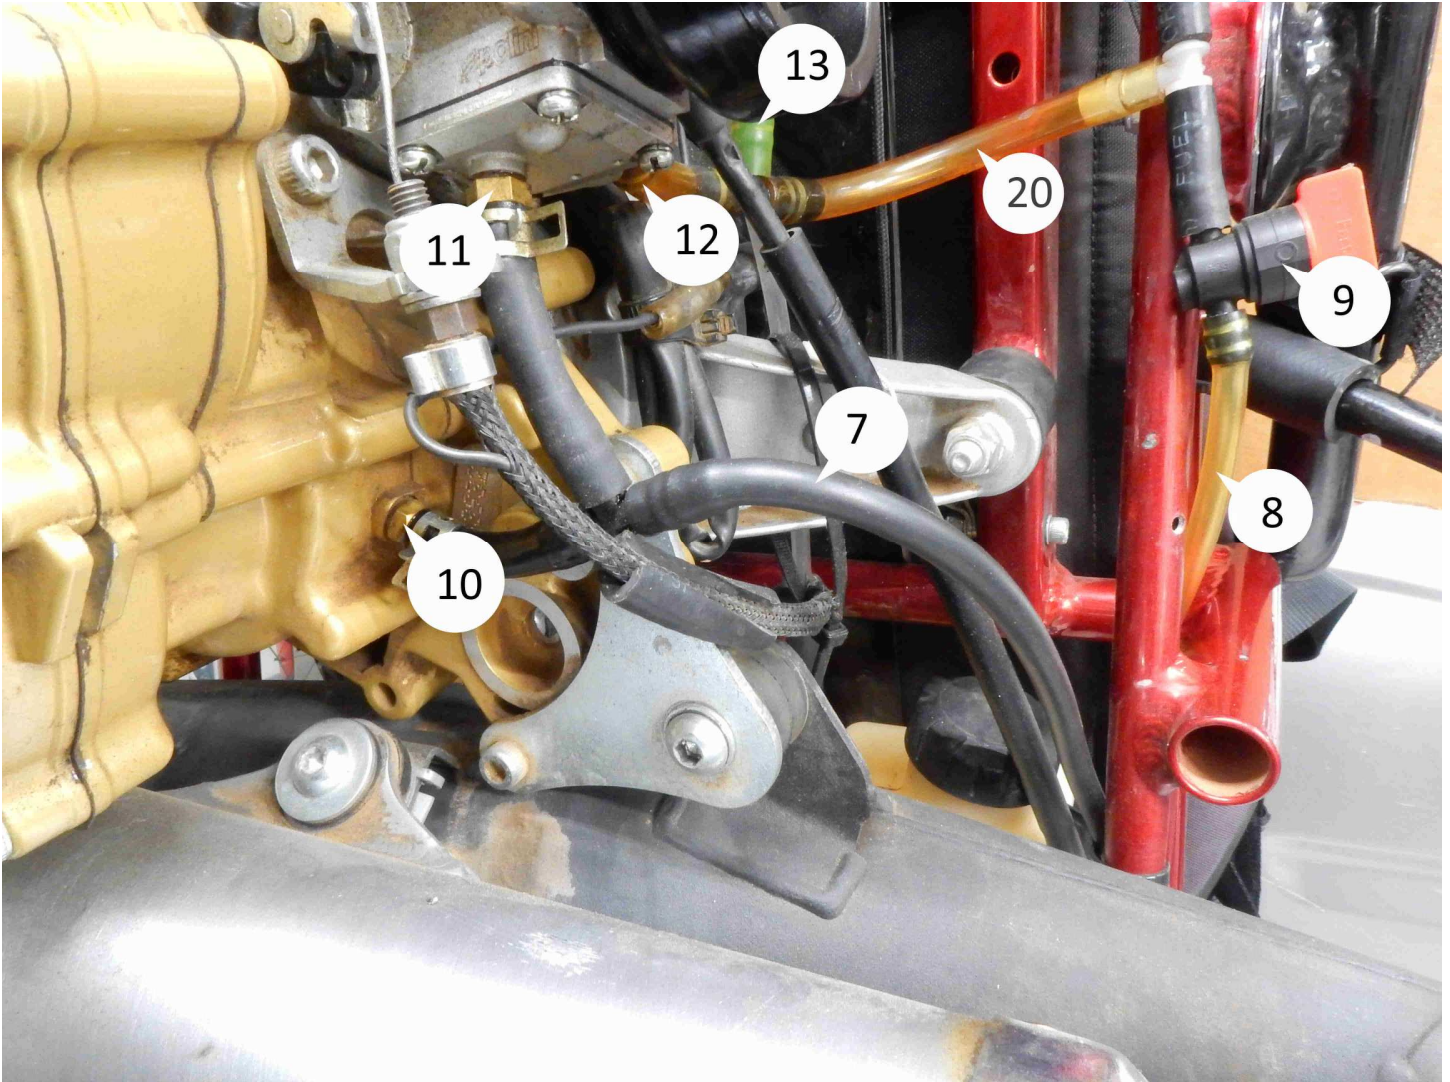

Figure 2 DSCN1340
Per the available options, the line from the tee above the coarse pressure adjustment valve (CPAV) to the manometer tee and carburetor (#20 in figure 2) can be 3/16 (5mm) or 1/4" (6mm) depending on the size of the carburetor inlet fitting. Some carburetors have a 1/8" (3mm) ID inlet so a short piece of 1/8" (3mm) line with a reducer fitting is supplied and must be used.
8. Pump output fuel line to CPAV (#9 in figure 2)
Parts ID – figure 2
10. Install the Coarse pressure adjustment valve (CPAV) #9 (figures 2,3) in fuel line #8 (figure 1,2,3). Its location should be 3" (7.5cm) or more below the carburetor fuel inlet #12 (figures 2,3). Fuel line #8 can be any convenient length but it must not have any loops which could trap a bubble and create a vapor lock.
Install the tee that goes to the manometer tube above the CPAV #9 (figures 2,3). The length of the fuel line from the valve #9 to the tee should be cut so that the center of the tee is located 1/2" (12mm) or so higher than the fuel inlet fitting on the carburetor. If the tee is lower than the carburetor inlet fitting, vapor lock can occur!
Connect the tee on the bottom of the manometer tube to a short piece of fuel line and connect it to the tee above the CPAV #9 (figures 2,3). The fuel inlet line must be cut so as to locate the manometer tee close to the carburetor inlet #12 (figures 2,3). This will allow stray bubbles of fuel or air to be captured and vented that might be present in the fuel system.
The fuel line from the manometer tee to the carburetor inlet should also be short, as shown in figures 2,3. The tee must be vertical. **Leave the fuel line going to the carburetor inlet disconnected at this time.** The system must be purged first and is a step in the "FSM Operation Instructions – first time use".